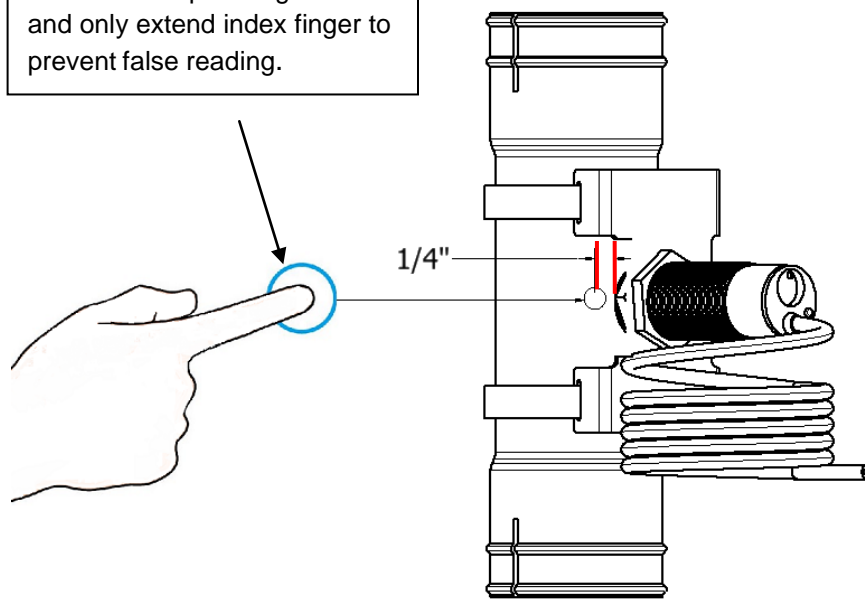

FIGURE 3
4. To set sensitivity, place index finger on tubing 1/4" away from edge of sensor. **See Figure 3** Adjust sensitivity until LED indicator is ON.
4. To set sensitivity, place index finger on tubing 1/4" away from edge of sensor. **See Figure 3.** Adjust sensitivity until LED indicator is OFF.